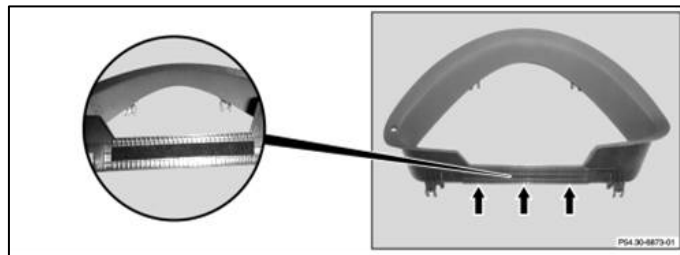

Figure 3
2. Stick felt strip (material thickness: 1 mm) at the bottom of the ribs of the instrument cluster frame (Figure 3).